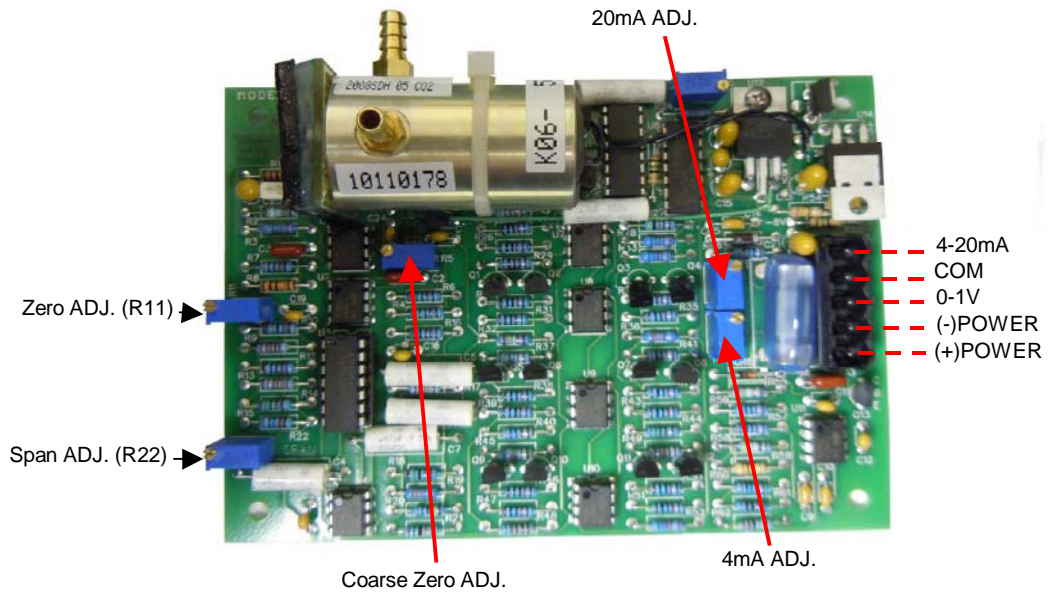

FIGURE 2
C. Circuit Board (See Figure 2)